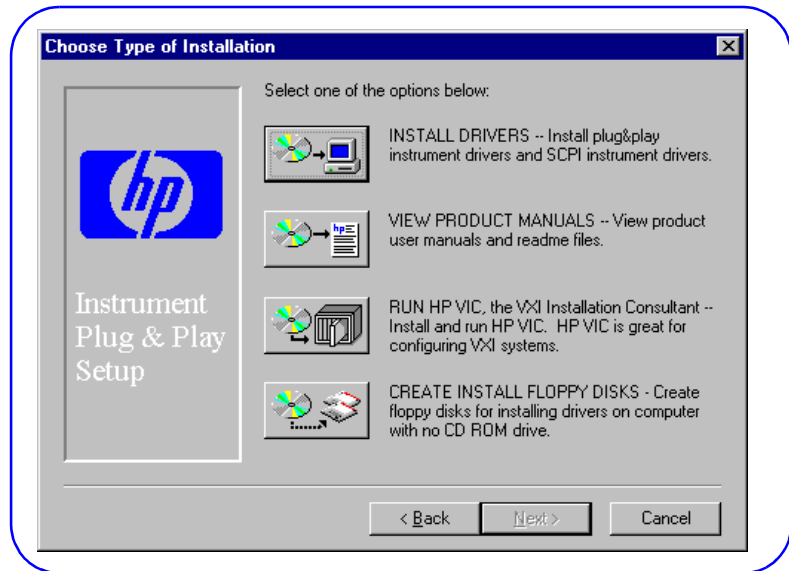

Figure 21. Choose Type of Installation Screen
- 3 When the main menu appears, click *Launch Installer or View Manuals*. Click *Next* on the next screen and *Yes* on the third screen to go to the **Choose Type of Installation** screen (see Figure 21).